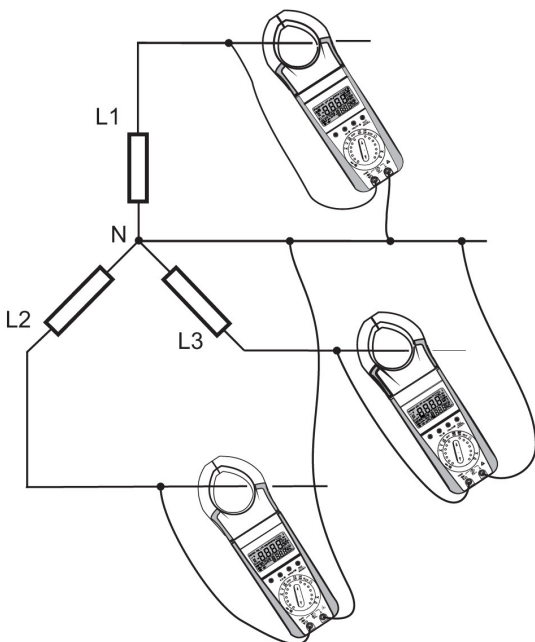

Fig. 19 Connection diagram for 3P4W unbalanced load
2. Meter will show L1-n and I-1 on display. Connect meter to phase L1 as shown in figure 19. After connection, press function (Yellow) key, meter will display measured apparent Power and PF for phase L1 on LCD.